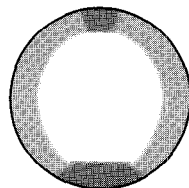

Fig. 18-E
12. Using the burner focusing knob ⑥, make adjustment so that the sizes of two arc images will be almost identical. (Fig. 18-D)
13. Using the burner centering knobs ④, overlay the two arc images. Then, push in the field iris diaphragm knob to open the iris.